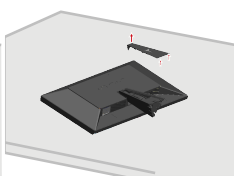

Figure 3
Step 3: open the support garnish by pushing it upward as shown in Figure 3 (after hearing a chirping sound).